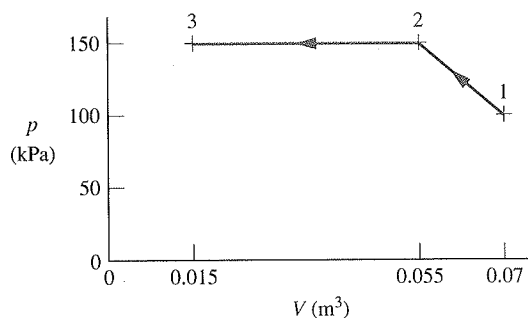

Fig. P2.32
2.32 Air contained within a piston-cylinder assembly is slowly compressed. As shown in Fig. P2.32, during this process the pressure first varies linearly with volume and then remains constant. Determine the total work, in kJ.